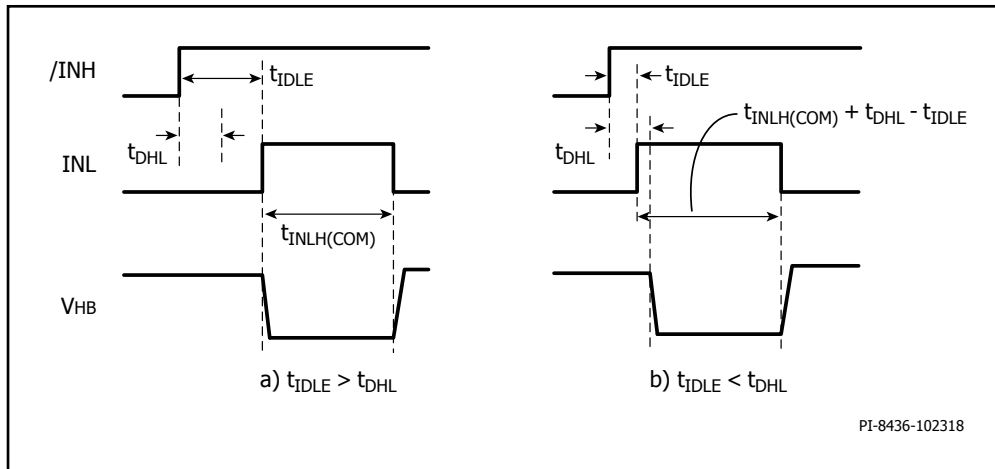

Figure 24. Minimum INL High Time Required for Device Internal High-Side Status Update a) $t_{IDLE} > t_{DHL}$ b) $t_{IDLE} < t_{DHL}$.
- G. Assumes control input /INH was high for an idling period of t_{IDLE} > t_{DHL}. The required minimum INL high time for internal communication increases by t_{DHL} - t_{IDLE} if t_{IDLE} < t_{DHL} (refer to Figure 24).